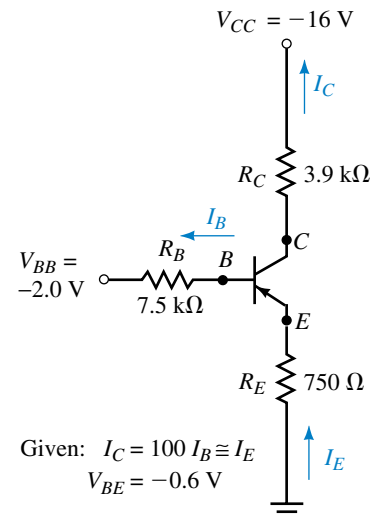

FIGURE 7-64
21. Given the circuit of Figure 7-64, determine V_B , I_C , and V_{CE} .